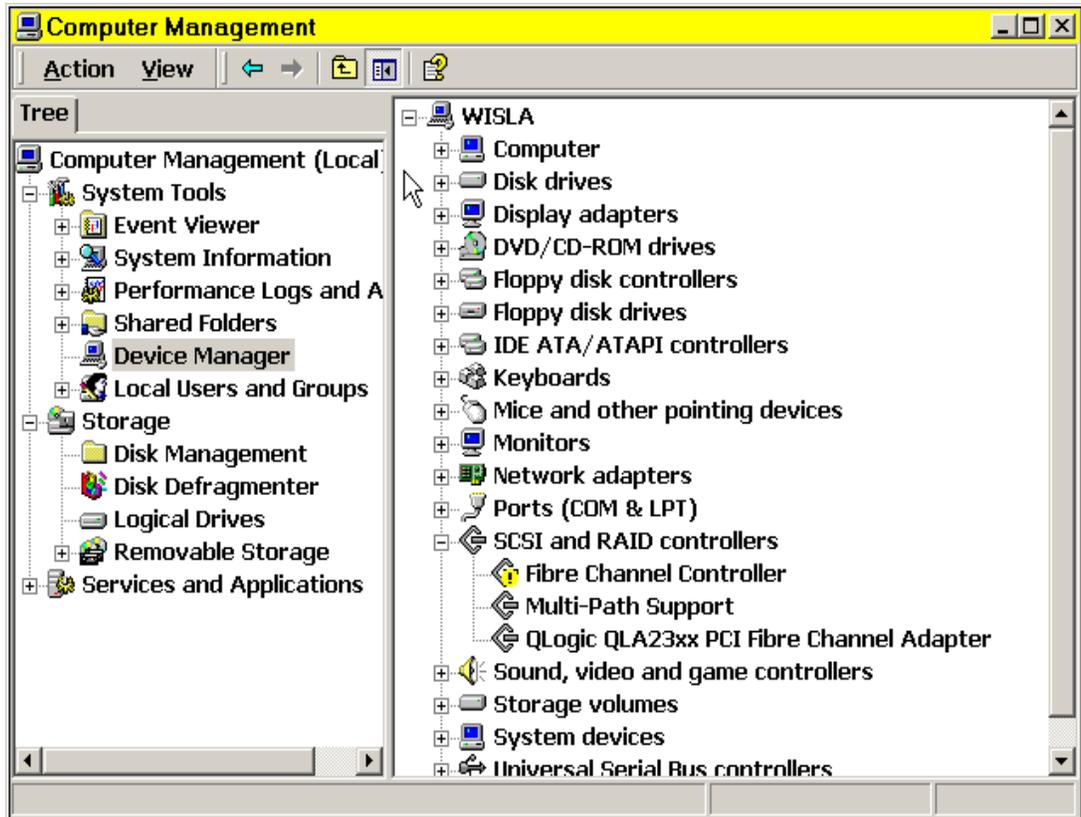

Figure 1 The Device Manager Tool
6. From the desktop, go to **My Computer** → **Manage**, and select **Device Manager** (see Figure 1 on page 4).
**Important:** If any of your adapters are labeled QL2xxx (or similar, as in Figure 1), perform these steps with that adapter as well. An adapter with that name is using the built-in Windows drivers that *do not* work.